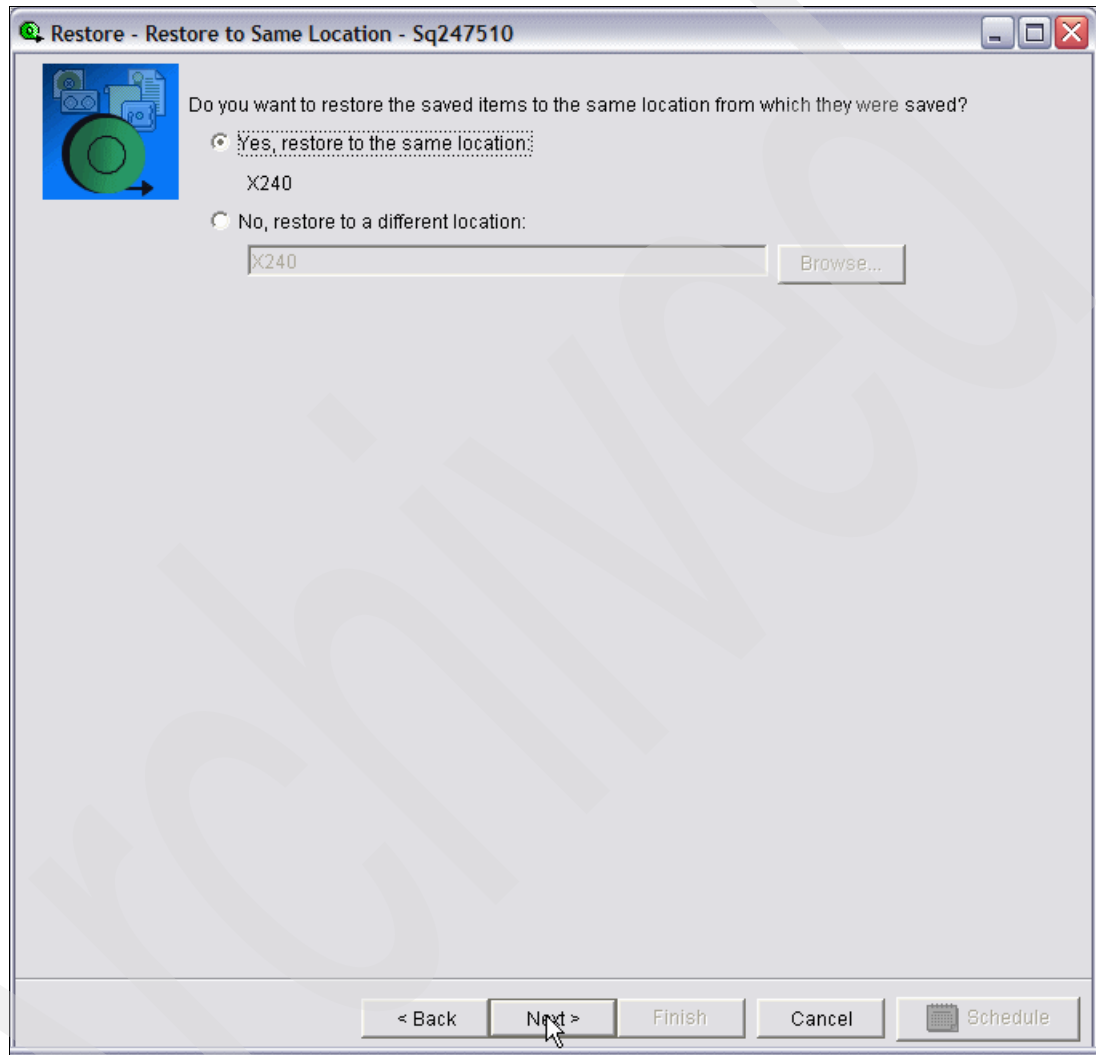

Figure 6-102 Restore - Restore to Same Location
8. The next window, Restore to Same Location (Figure 6-102), enables us to restore into the same library or object as the save or restore it to another location. For example, you can restore an object into a different library, restore a library as a different library, restore a stream file into a different directory, and so on. In our simple example, we specify to restore into the save location (restore library X240 on itself).